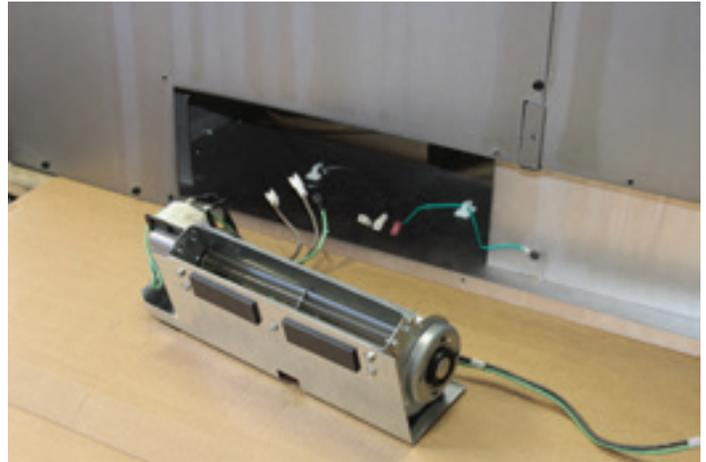

Figure 2
- Place blowers on the floor behind the fireplace. Position the blowers with the two black connecting wires and green ground wire towards the left hand side when facing the back of the fireplace. **See Figure 2.**